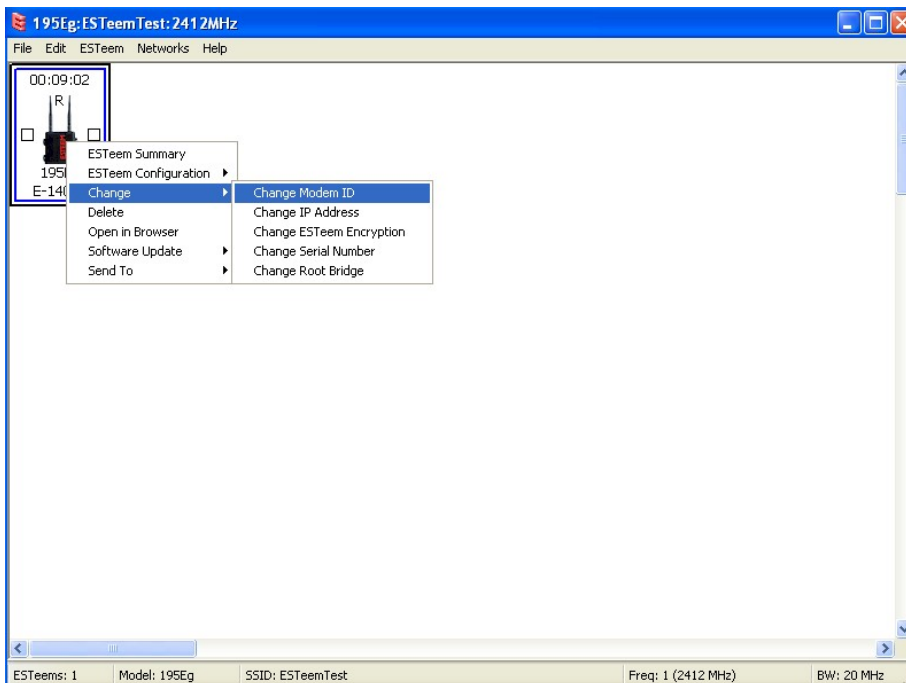

Figure 12: Change Modem ID
3. To change the name of the ESTEem 195E from the WLAN MAC address to "Main Office" (or any other location name) to match the example configuration, Right-Mouse click on the ESTEem icon and select Change>Change Modem ID (Figure 12). Enter "Main Office" in the pop-up window and select OK.